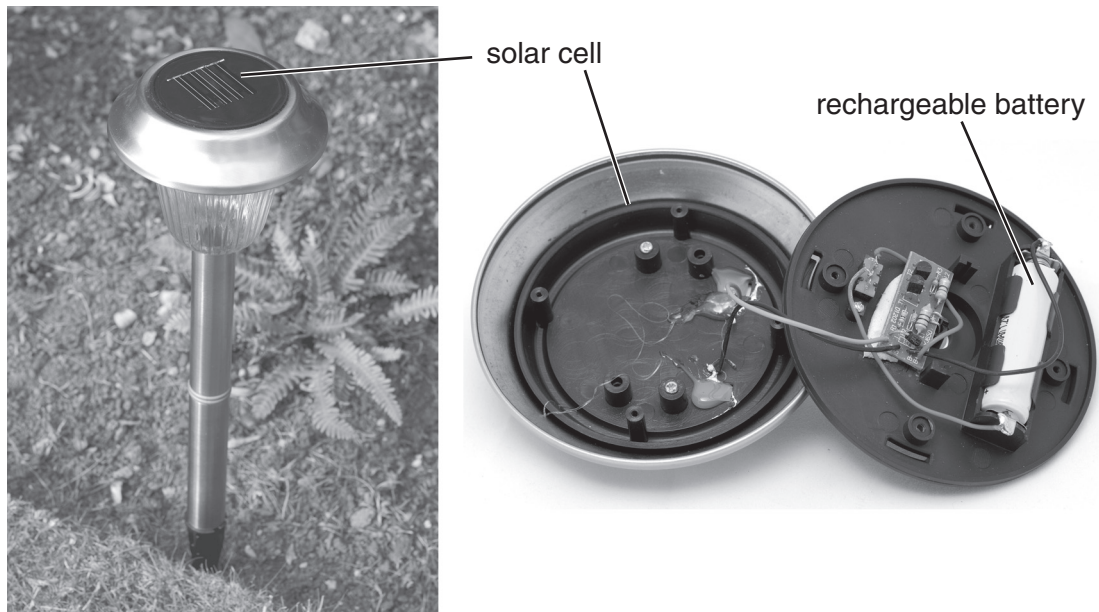

Fig. 9
- 3 Fig. 9 shows a solar powered garden light with details of the circuit.